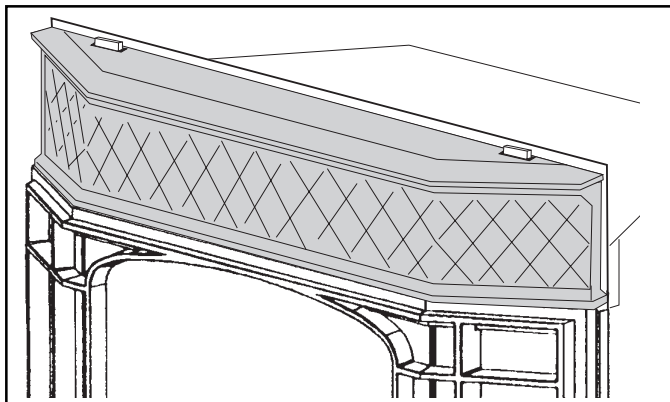

Fig. 22. Engage the slots in the Upper Grille Top Louvre with the upper tabs of the Hanging Brackets.
- 4) Install the upper grill by engaging the obround holes with the upper tabs of the hanging brackets, as per Fig. 22
- 5) Install top louvre by engaging the obround holes with the upper tabs of the hanging brackets, as per Fig. 22.